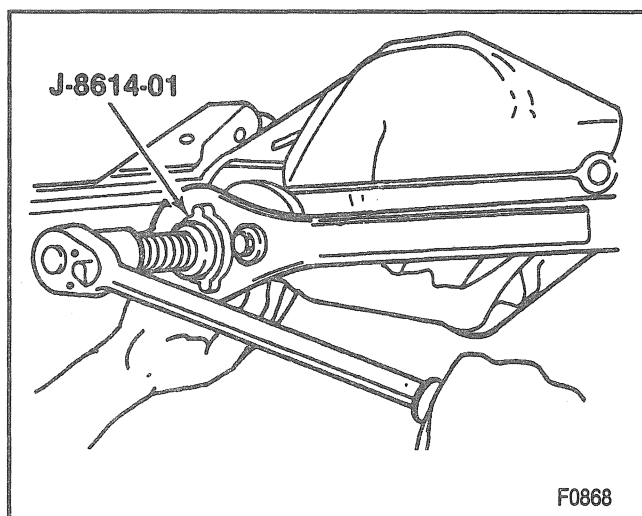

Figure 18—Removing the Drive Pinion Flange
- Use the special nut and forcing screw to remove the flange (Figure 18).